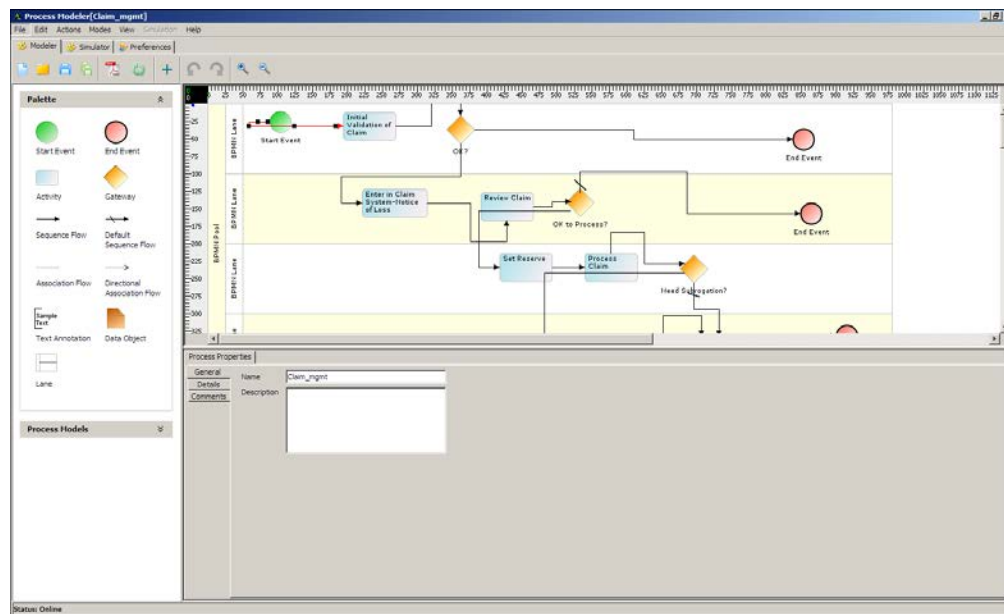

Figure 38: Process Modeler
4. Click **Process Modeler** button. The **Process Modeler** window is displayed (see Figure 38).